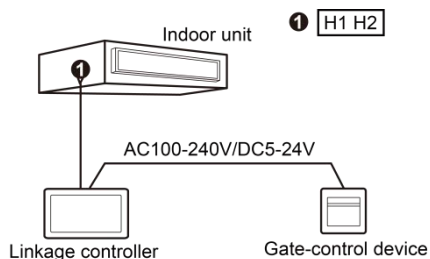

Fig.5.7 Connection fashion 1 of Wired Controller and Gate Control
- ① The linkage controller in figure 5.7 should be set as master HBS device.